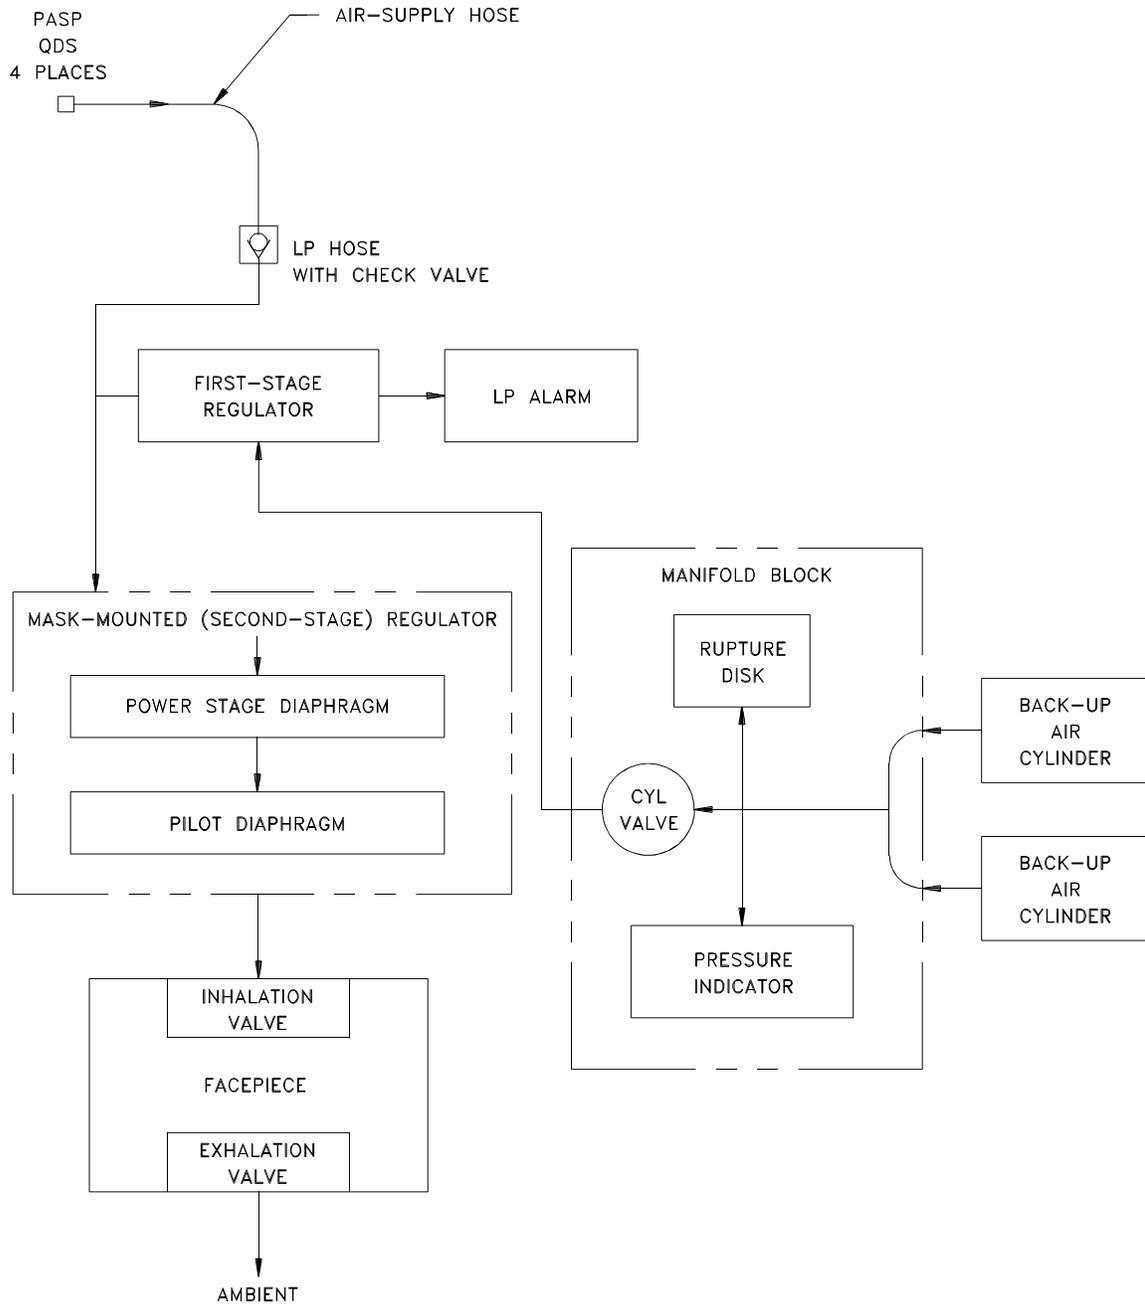

Figure 3-6. SCBA Airflow Diagram
3.4.2 SCBA Airflow Process. The PASP/RASP air cylinders supply the external air source to the SCBA. Figure 3-6 illustrates the airflow within the SCBA. The SCBA is connected to the PASP by hose sections. Each air-supply hose connects to an LP air-supply hose with a check valve. From the LP hose, the air flows through the first-stage regulator and then air travels to the MMR. The MMR reduces the air pressure from 60-80 psig to a breathable level. Two diaphragms on the MMR sense